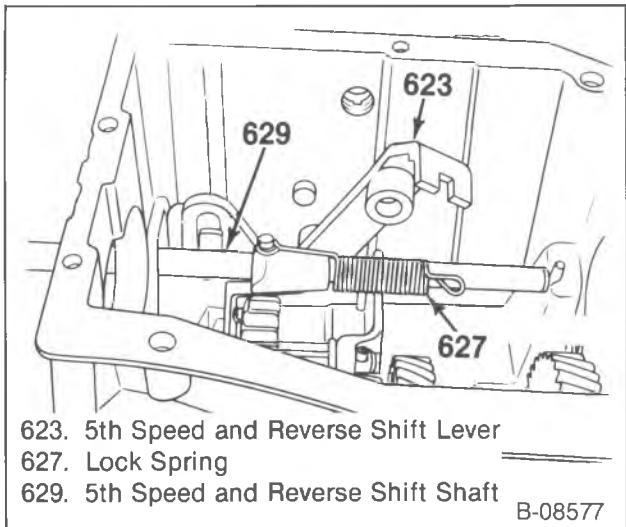
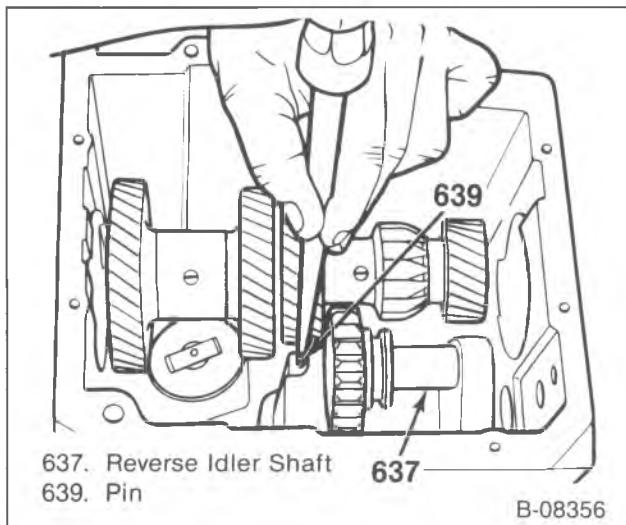

Figure 13—5th Speed and Reverse Shift Shaft
Figure 14—Removing the Reverse Idler Shaft Pin
14. Mainshaft rear bearing race (605).
15. Mainshaft (604).
16. 5th speed and reverse shift shaft (629) (figure 13).
17. 5th speed and reverse shift lever (623).
18. Reverse idler gear (638).
- Drive the pin through the front of the idler shaft (637) (figure 14).